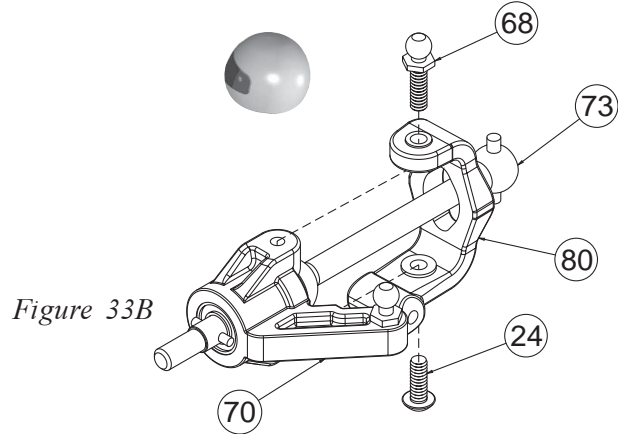

Figure 33B
- ❑ 2. Attach the Left Spindle (70) to the Left Spindle Carrier by sliding the CVD Dogbone (73) through the Spindle Carrier as illustrated in Figure 33B. Line up the holes in the Spindle and the Spindle Carrier. Thread a Long, Short Head Ball Stud (68) through the Carrier Bushing (47) into the Spindle from the top of the Spindle Carrier. Thread a 4-40 x 5/16" Button Head Screw (24) through the Carrier Bushing into the Spindle from the bottom of the Spindle Carrier.
- ❑ 3. Repeat Steps 1-2 for the Right Spindle (70) and Right 4 degree Spindle Carrier (80), (Marked with "4 R") assembly.